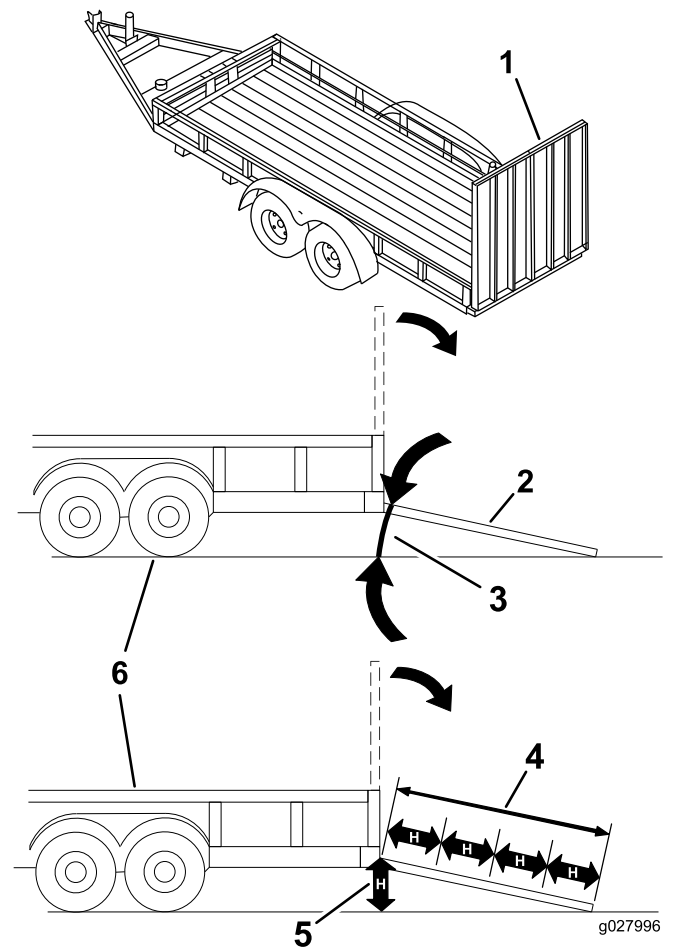

Figure 33
Loading a machine onto a trailer or truck increases the possibility of tip-over and could cause serious injury or death (Figure 33).
3. Lower the ramp, ensuring that the angle between the ramp and the ground does not exceed 15 degrees (Figure 33).
1. Lower the ramp, ensuring that the angle between the ramp and the ground does not exceed 15 degrees (Figure 33).